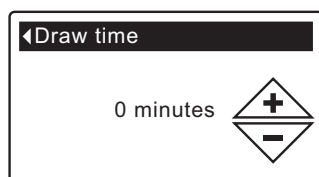

FIG. 58
- 8b. Draw time:** Press the UP (▲) or DOWN (▼) buttons to change the draw time. Hold the button down to rapidly advance. The draw time can be set from 0 to 255 minutes (See Figure 58).